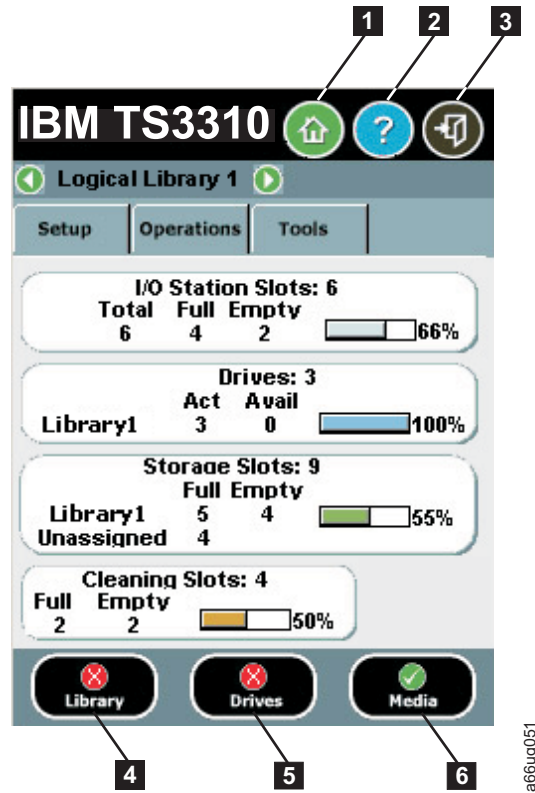

Figure 6-3. Operator Panel common header elements and subsystem status buttons
- **Home** (1 in Figure 6-3) - displays the default **Capacity View** screen.
- **Help** (2 in Figure 6-3) - context-sensitive help for the associated page
- **Logout** (3 in Figure 6-3) - ability to log out
- **Library** (4 in Figure 6-3)- opens the operator interventions for the library.
- **Drives** (5 in Figure 6-3)- opens the operator intervention screen for drives.
- **Media** (6 in Figure 6-3)- opens the operator intervention screen for media.